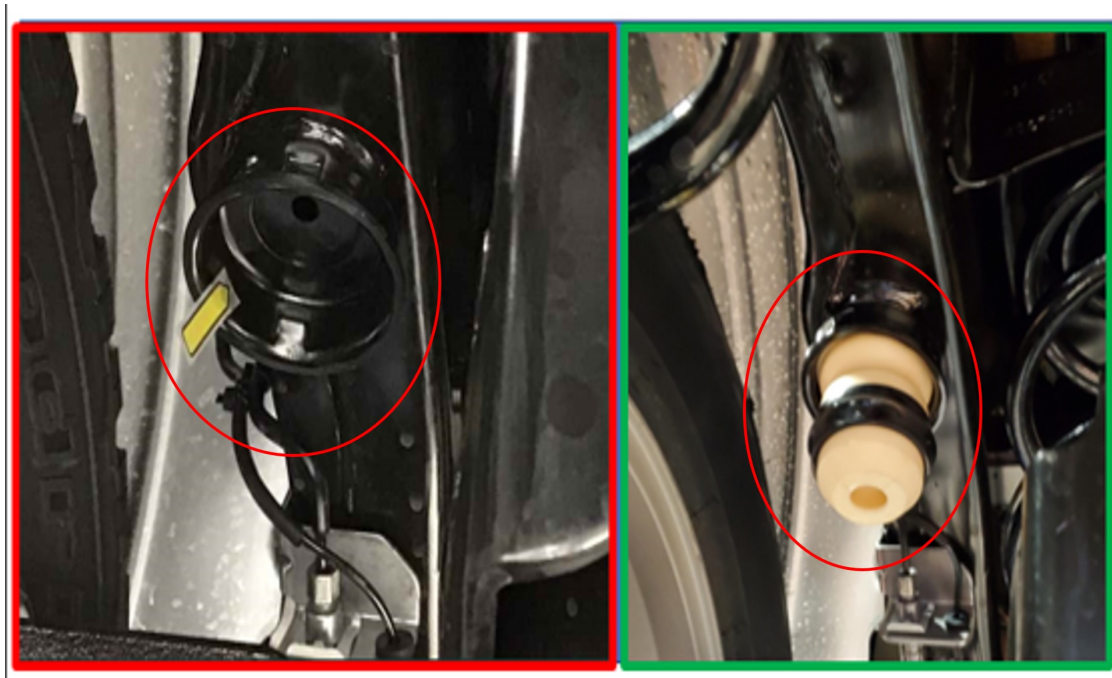

Fig. 1
2. Inspect for missing rear jounce bumpers (Fig. 1) .
3. Are one or both rear jounce bumpers missing? (Fig. 1)